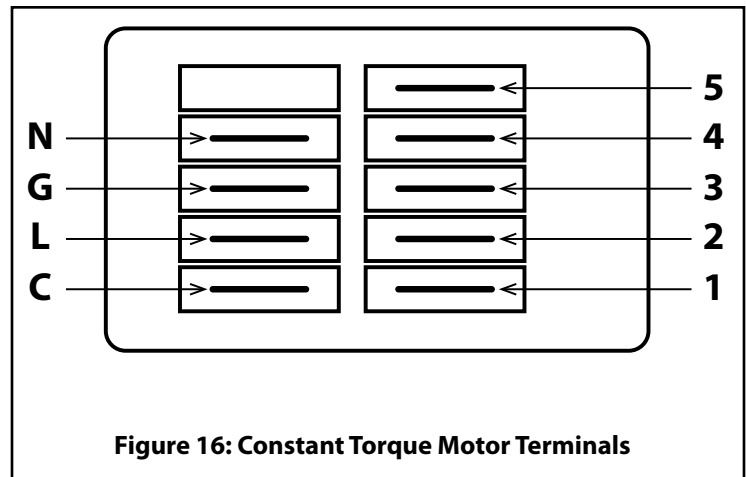

Figure 16: Constant Torque Motor Terminals
3. Locate the BLACK and RED wires connected to two of the 1–5 speed tap terminals on the motor terminal block (see Figure16).